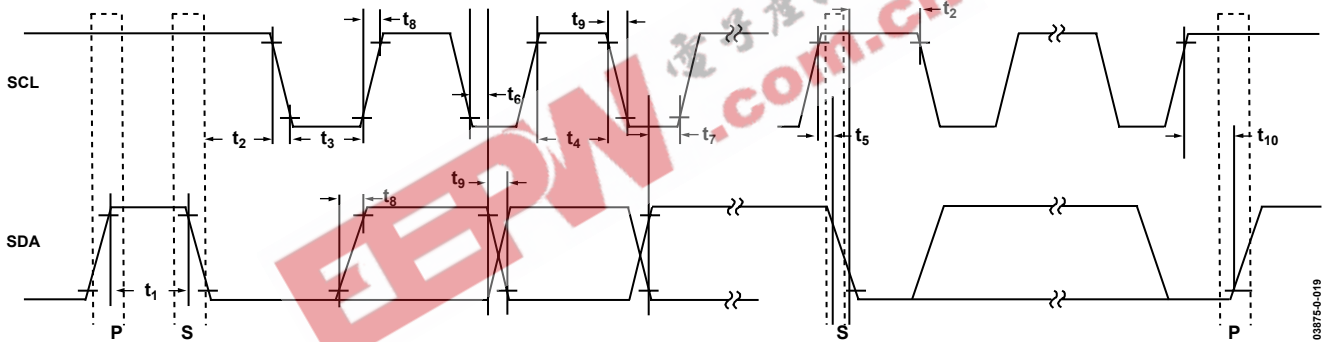
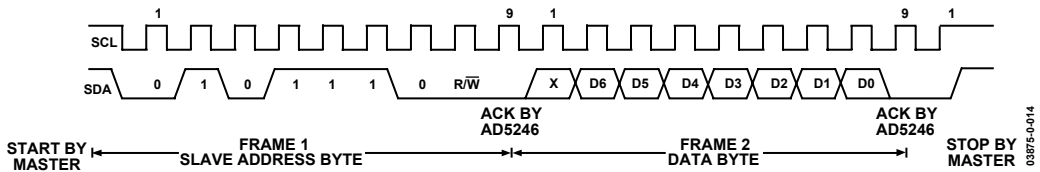
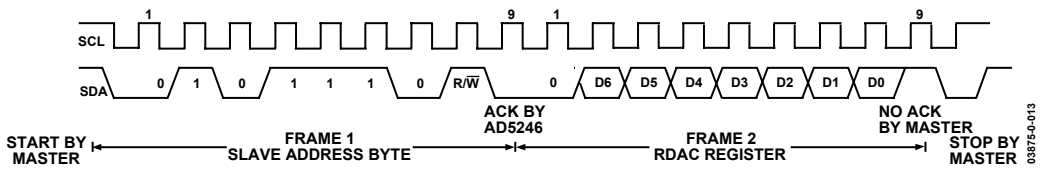

Figure 25. I²C Interface, Detailed Timing Diagram
Figure 26. Writing to the RDAC Register
Figure 27. Reading from the RDAC Register
³ See timing diagrams (Figure 25, Figure 26, Figure 27) for locations of measured values.
- The master initiates data transfer by establishing a START condition, which is when a high-to-low transition on the SDA line occurs while SCL is high (see Figure 26). The following byte is the slave address byte, which consists of the 7-bit slave address followed by an R/W bit (this bit determines whether data will be read from or written to the slave device).
- In read mode, after acknowledgement of the slave address byte, data is received over the serial bus in sequences of nine clock pulses (a slight difference from the write mode where eight data bits are followed by an acknowledge bit). Similarly, the transitions on the SDA line must occur during the low period of SCL and remain stable during the high period of SCL (see Figure 27).
- When all data bits have been read or written, a STOP condition is established by the master. A STOP condition is defined as a low-to-high transition on the SDA line while SCL is high. In write mode, the master will pull the SDA line high during the tenth clock pulse to establish a STOP condition (see Figure 26). In read mode, the master will issue a No Acknowledge for the ninth clock pulse (i.e., the SDA line remains high). The master will then bring the SDA line low before the tenth clock pulse, which goes high to establish a STOP condition (see Figure 27).